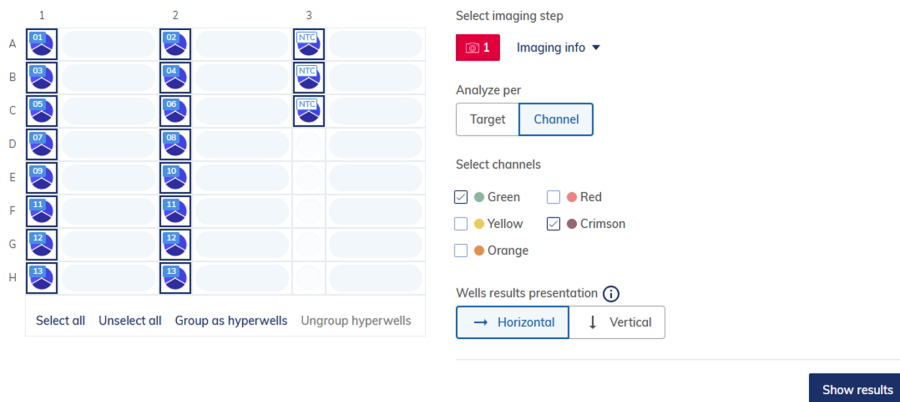

Figure 1. Exporting results as CSV file.
2. Export the results from QIAcuity Software Suite as a CSV file by selecting **Channel** under “Analyze per” (Figure 1). Select only the **Green** and **Crimson** channels and choose the wells you want to include for the fragmentation size calculation.